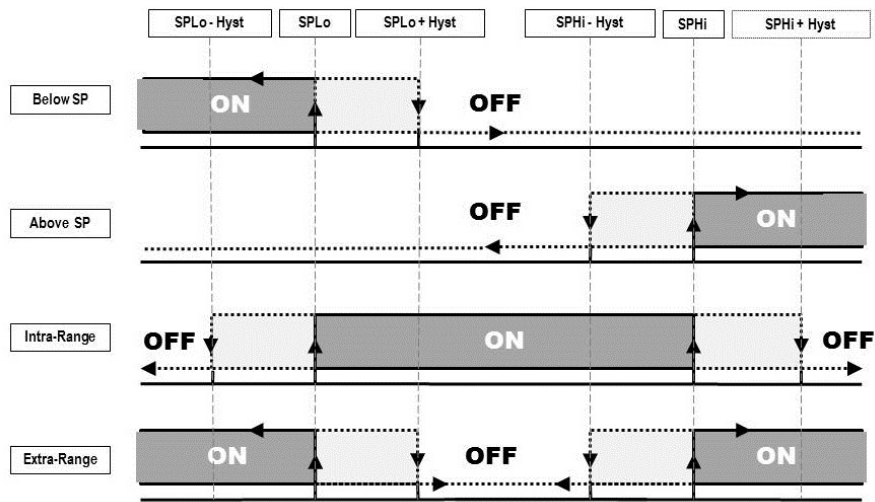

Fig. 07 – Conditions of activation and deactivation of the different alarm modes
- **Hysteresis:** This parameter stores the pressure value that, with the values of the set points, determines the limit value to leave the alarm situation. **Fig. 07** shows the conditions for alarm activation and deactivation.